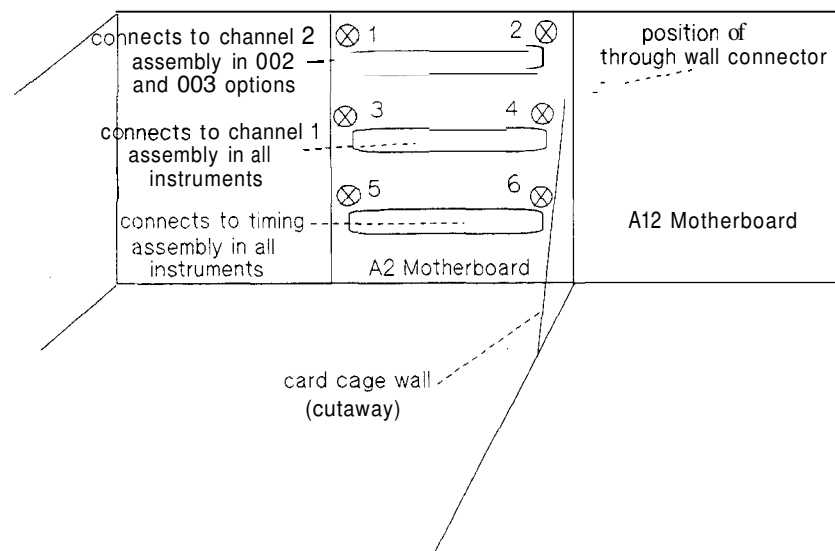

Figure 5-16. A2 motherboard removal
2. Remove screws 1 to 6, shown in Figure 5-16.
3. The **A2** motherboard can then be freed of the through wall connector, Figure 5-16, to the **A12** motherboard and lifted out.